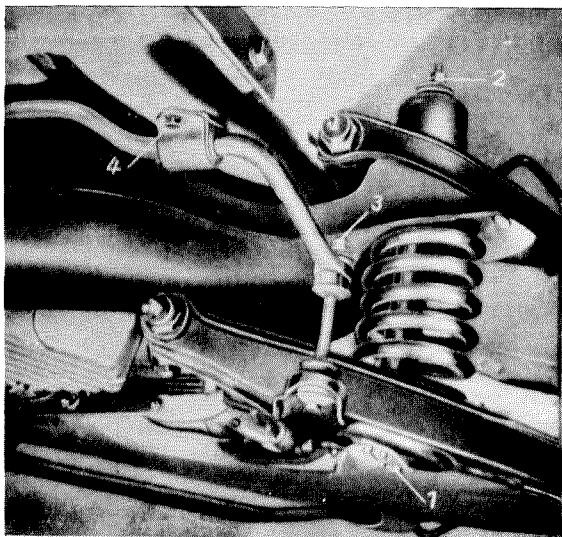

Fig. 01 — 2/6
19. After removing the fixing screws (4), remove torsion bar support mounting at left and right of chassis base assembly (see Fig. 01 — 2/6).